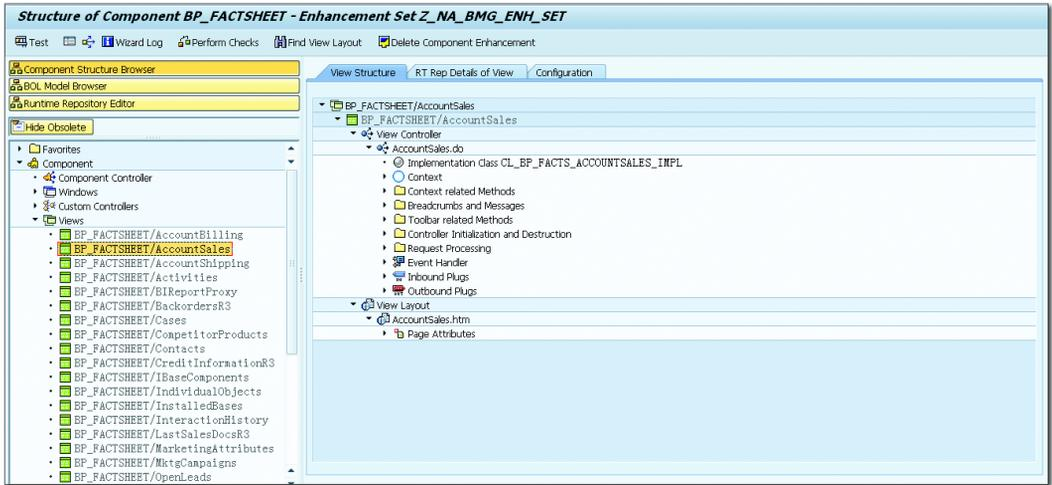

Figure 9.26 Maintaining Fact Sheet Component Views
1. Review the views or create a new view based on your requirements to pull the data from the other systems. Figure 9.26 shows the different views for the BP_FACTSHEET component that can be accessed via Transaction: BAP_WD_CMPWB. You can configure the fields on each of views that you want to see on the fact sheet.